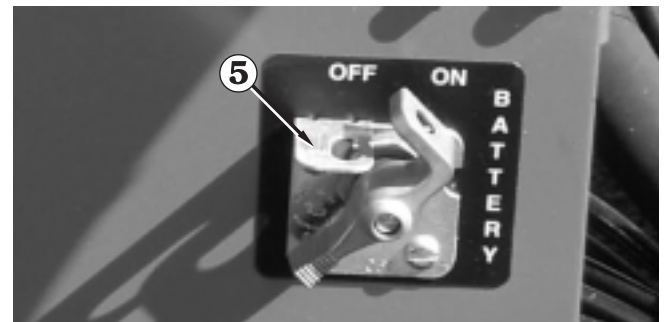
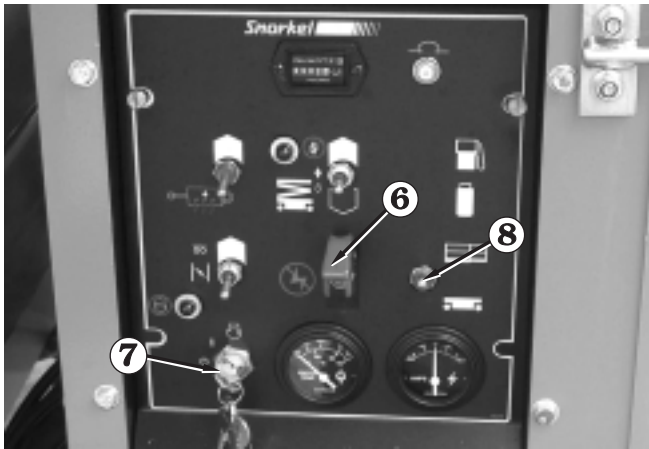

Figure 9.4
Figure 9.5
1. Check to be sure the **Battery** switch **5** is ON. (See Figure 9.4)
2. Check to be sure the **Emergency Stop** switch ⑥ (see Figure 9.5) is on (up).
3. Check to be sure the **Main Power** switch ⑦ is on (see Figure 9.5).
4. Check to be sure the **Selector** switch ⑧ is set to platform (up) (see Figure 9.5).
5. If the **Battery** Switch ⑤ (see Figure 9.4), **Emergency Stop** ⑥, **Main Power** (7), and **SELECTOR** switch ⑧ (see Figure 9.5) are all set correctly, and the engine will not start from the platform control box, set the **Selector** switch ⑧ to ground (down) and try to lower the platform from the ground control box.